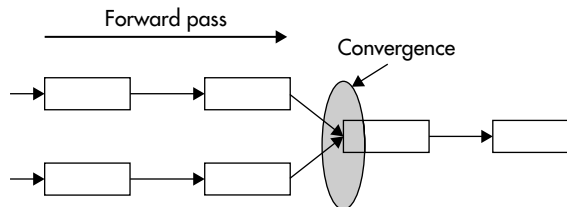

Figure 6-12 Sample converging paths
6. Calculate the forward pass. Note that when multiple activities converge into a single activity, you should select the activity with the highest early finish (EF) to carry forward to the early start (ES) of the successor activity (see details and Figure 6-12, later in this chapter).
- **Activity convergence** Occurs when deliverables of two or more predecessor activities are required for the start of a single activity (successor). On a forward pass, when converging activities into a single activity, you should always use the largest of the early finish dates of the predecessor activities as the early start date of the successor activity. On a backward pass, always use the smallest late start date as the late finish date of the successor activity (see Figure 6-12).